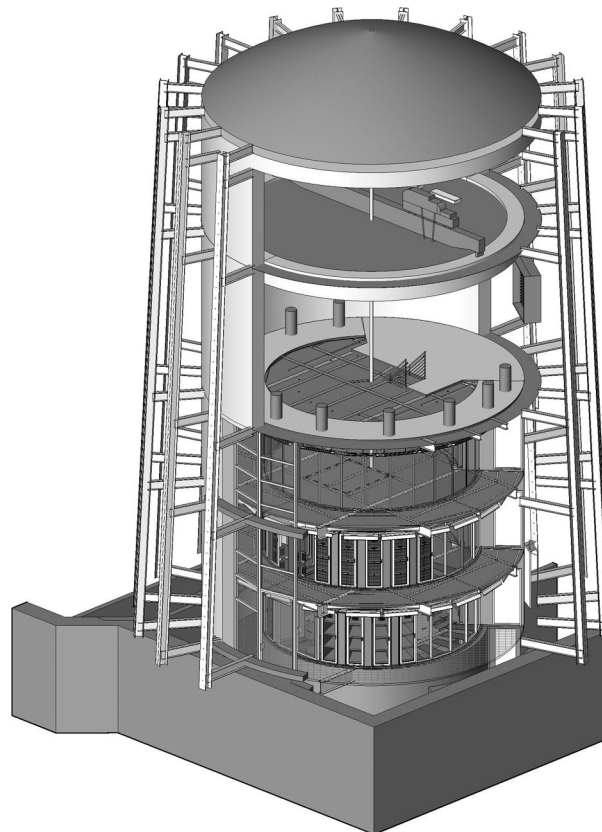

Figure 2.12 BIM model isometric cutoff of interior configuration of adaptive reuse, CLUMEQ Data Center. © Winter Street Architects
**Allison Scott:** We don’t not do BIM. That’s our motto. (See Figure 2.12.)